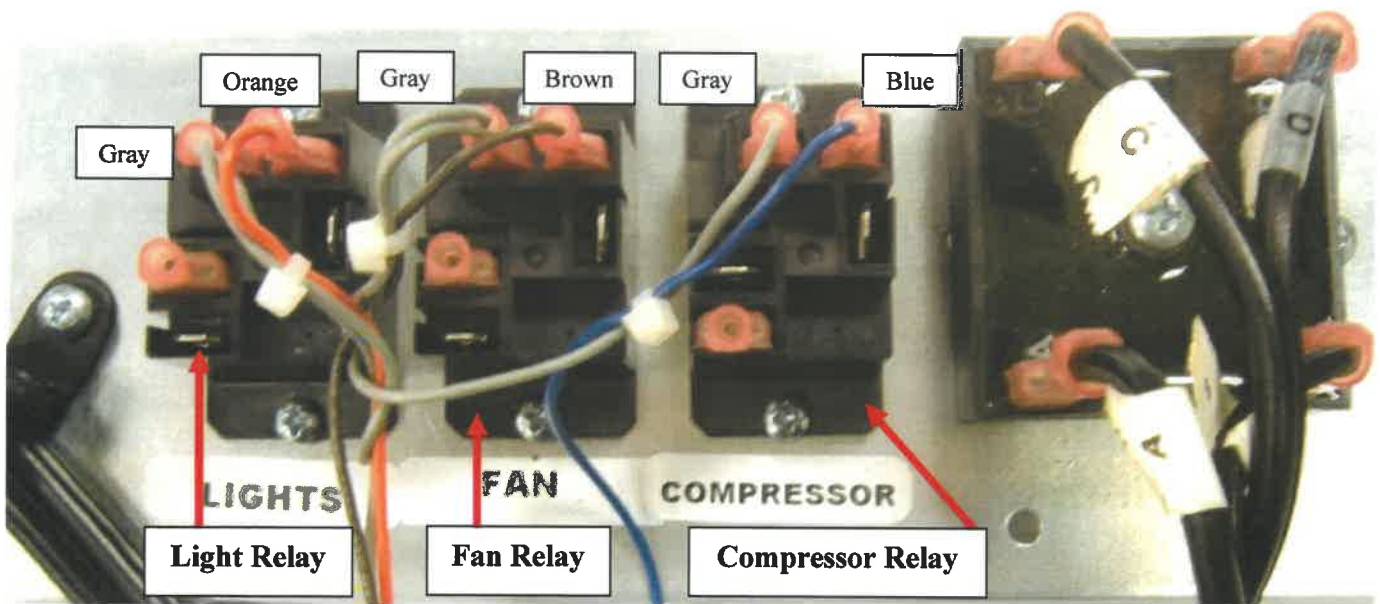

Figure 5 – View shown without High Voltage Leads to ease installation
- b. The double crimped gray wire of the Relay Control Harness (Figure 5) is connected to one side of the coil of the Light Relay.
- c. The orange wire of the Relay Control Harness (Figure 5) is connected to the other side of the coil of the Light Relay.
- d. The double crimped gray wire of the Relay Control Harness (Figure 5) is connected to one side of the coil of the Fan Relay.
- e. The brown wire of the Relay Control Harness (Figure 5) is connected to the other side of the coil of the Fan Relay.
- f. The single crimp gray wire of the Relay Control Harness (Figure 5) is connected to one side of the coil of the Compressor Relay.
- g. The blue wire of the Relay Control Harness (Figure 5) is connected to the other side of the coil of the Compressor Relay.